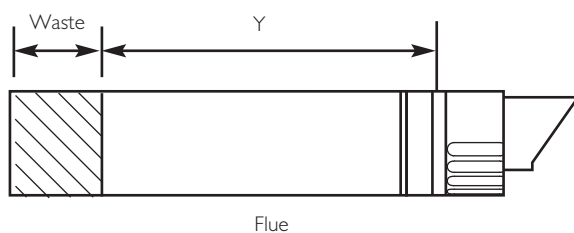

Fig. 24
5. Mark dimension 'Y' on the flue as shown (Fig. 24). Carefully cut the waste material from the flue, ensuring that the ducts are square and free from burrs.